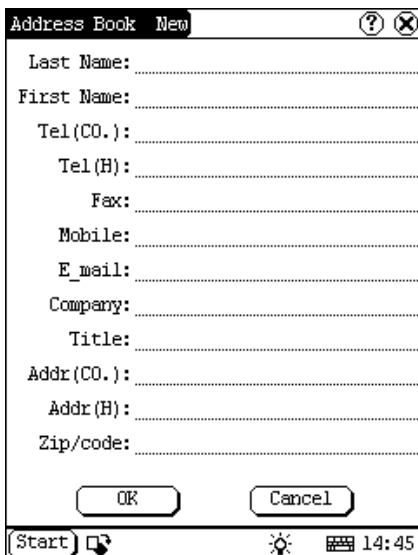

Figure 5-19
- 1) In the Address Book interface, click [New] button to open the Address New interface. (See Figure 5-19)